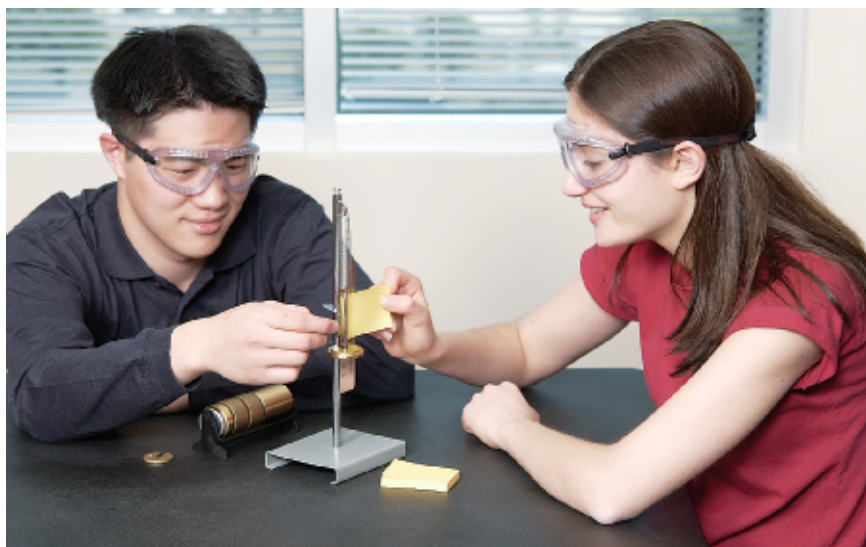

Figure 1
4. Set up the Hooke's law apparatus as shown in **Figure 1**.